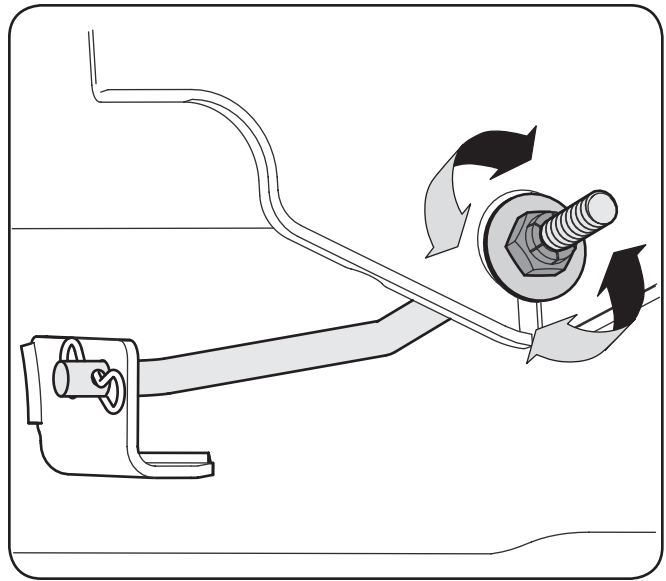

Figure 6-3
3. Locate the flange lock nut on the front side of the stabilizer bracket. See Figure 6-3. To adjust the deck front to rear: